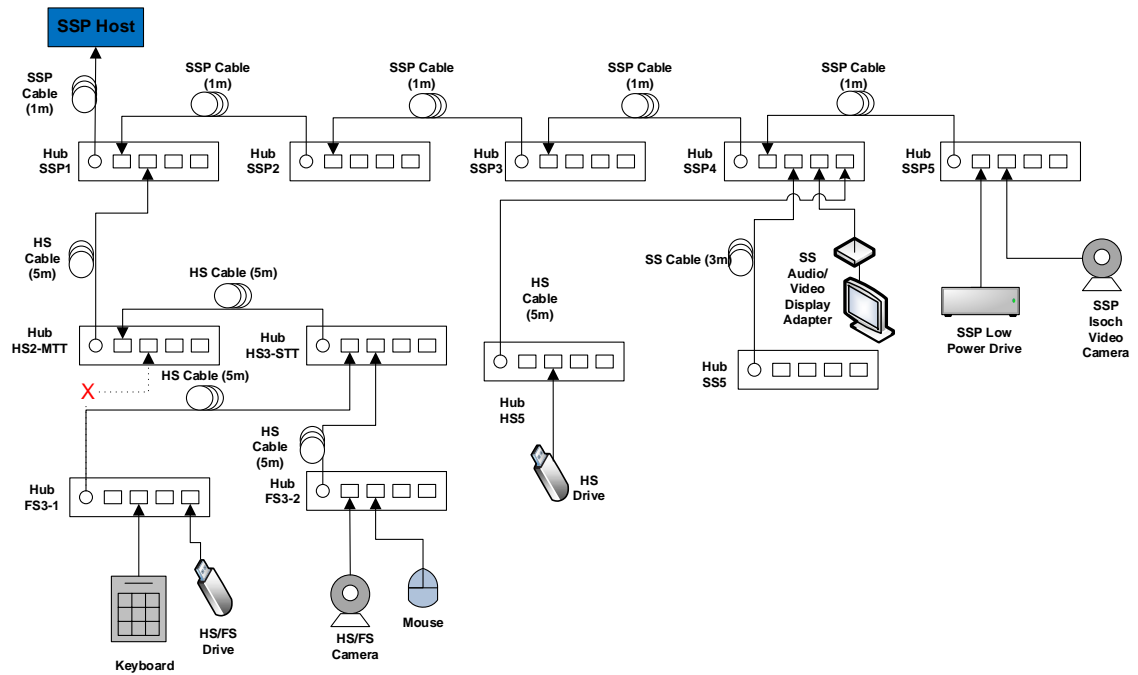
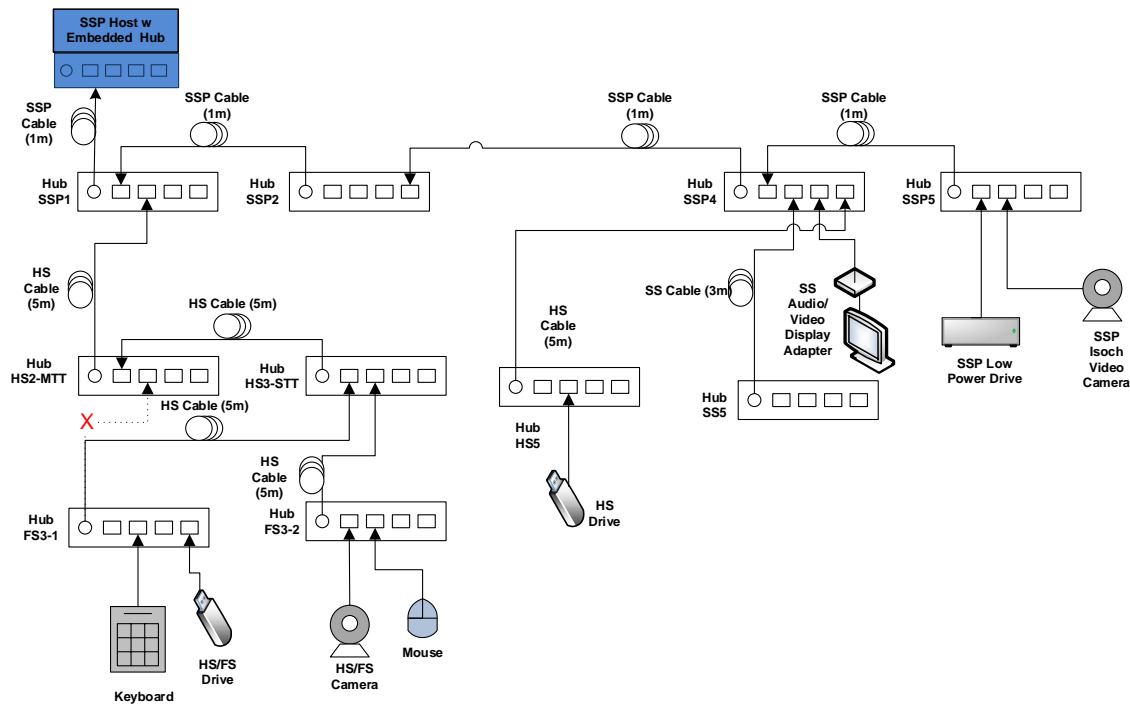

Figure 5-5: Topology Change 2
Figure 5-6: Topology Change 2 (embedded hub)
- Reattach Hub FS3-1 to port 1 on Hub HS3-STT as shown in Figure 5-5 and Figure 5-6.